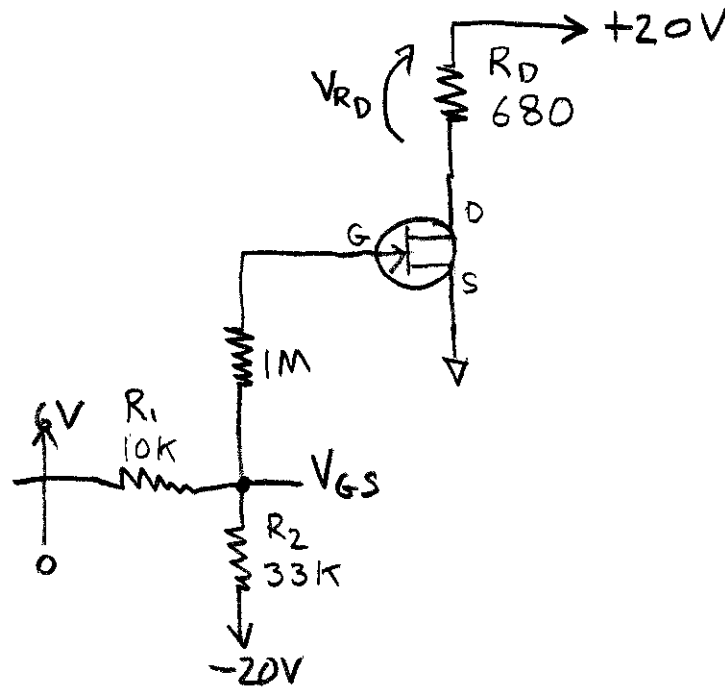

Figure 1
- 2.1 Build the circuit in Figure 1 but do not install the transistor yet. The 680 ohm drain resistor is about the largest that can be used if the  $I_{DSS}$  of your JFET is at the high end of its possible range. The voltage divider network is designed to work with your lab power supply to convert the positive 0 – 6 volt control into a negative control for biasing the gate of the JFET. Verify that the gate voltage varies from about -4.6 to 0.0 as the 0 – 6 volt supply is varied from 0 to 6 volts. Fix any problems before continuing.